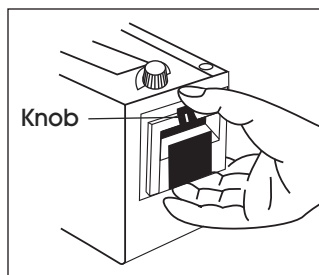

Figure 2
1. Turn off sensor and power before removing cutter unit. Pull sensor plug out, then pull cutter unit forward while pressing the knob on the top of the unit. (See Figure 2)